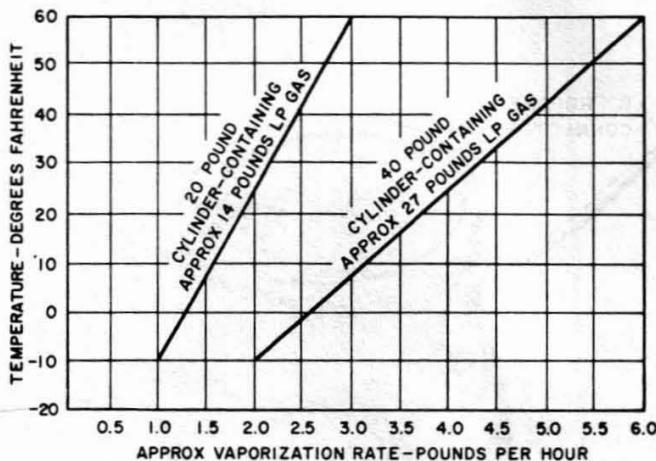

Fig. 8—Vaporization Rate—Two Thirds Full
6.05 The approximate vaporization rate of LP-Gas Cylinders (each cylinder two-thirds full of LP-Gas at various temperatures) is shown in Fig. 8.